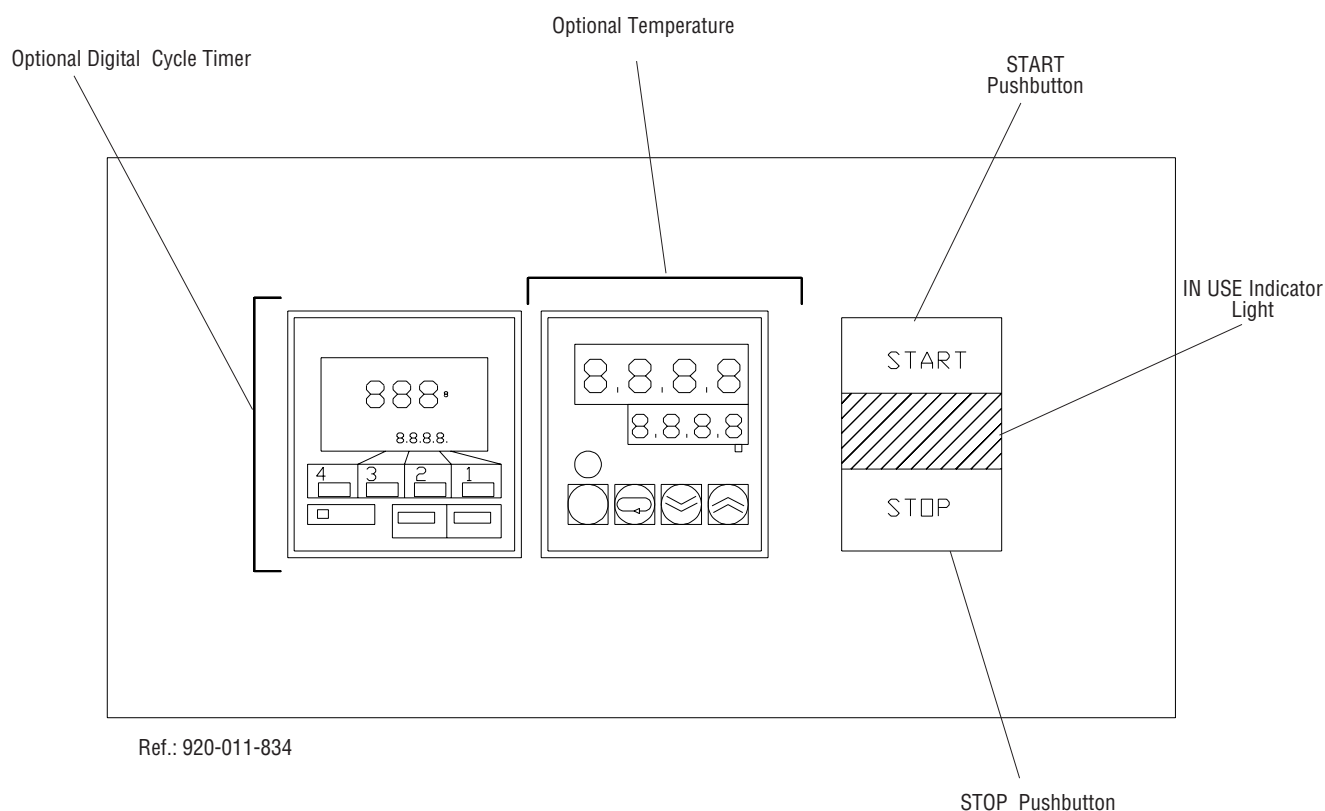

Figure 4-1. Control Panel
4. Close door and press START pushbutton (see Figure 4-1).